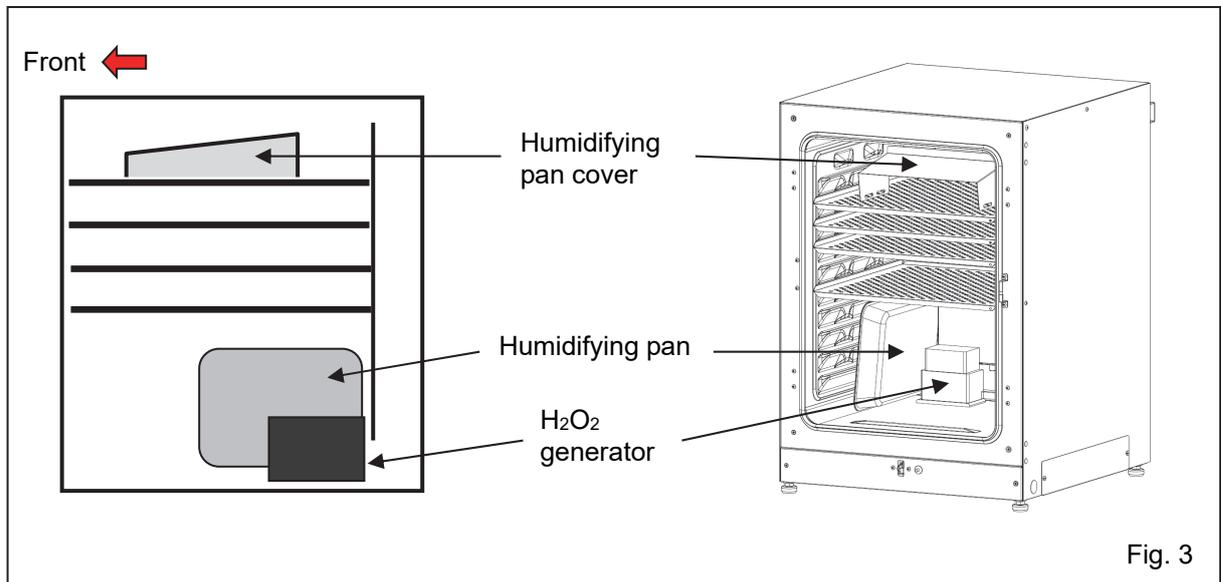

Fig. 3
9. Set the humidifying pan cover, the humidifying pan removed in the procedure 1 (Fig. 3).